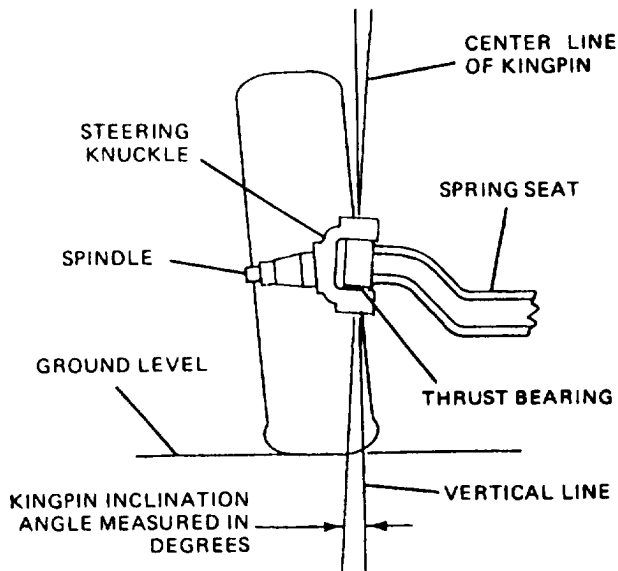
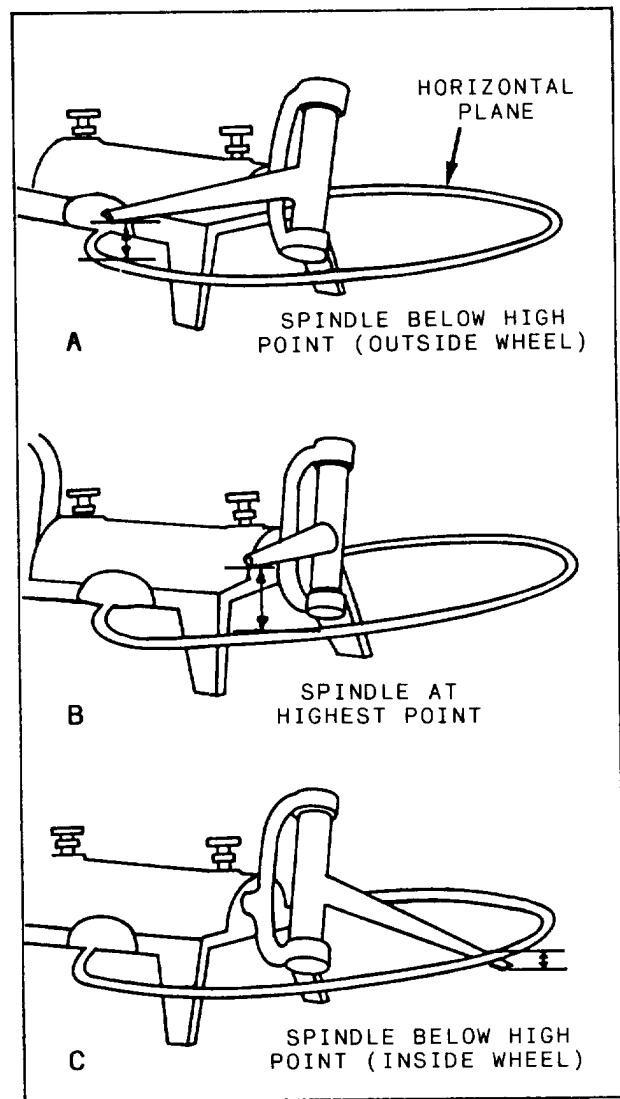

Figure 12-3.—Kingpin inclination.
Figure 12-4.—Fixed KPI.
3. KINGPIN INCLINATION. The inward tilt of the kingpin at the top is known as kingpin inclination (KPI). KPI (fig. 12-3) is measured in degrees from the center line of the ball joint or kingpin to true vertical (0). It is a directional control angle with fixed relationship to camber settings. It is also nonadjustable. One purpose of this inclination is to reduce the need for excessive camber. Figure 12-4 shows a dead axle with fixed KPI. The angle of the kingpin and spindle is made extreme to clarify the principles involved.
Timing the wheels to the left or right revolves the spindles around the kingpin. As the spindle is moved to the left or right from the position shown in figure 12-4, B, its end moves down, as shown in figure 12-4, A and